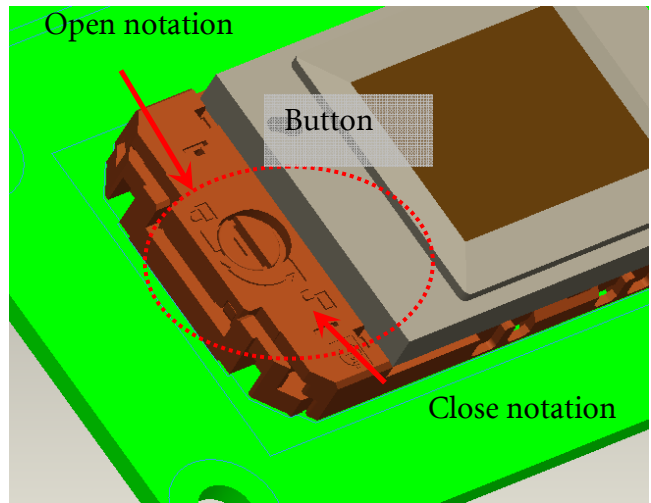

Fig. 5-4
5.3. Push DMD slightly and use screwdriver rotate clockwise button to lock (close notation) DMD on Chip B/D (Fig. 5-4).